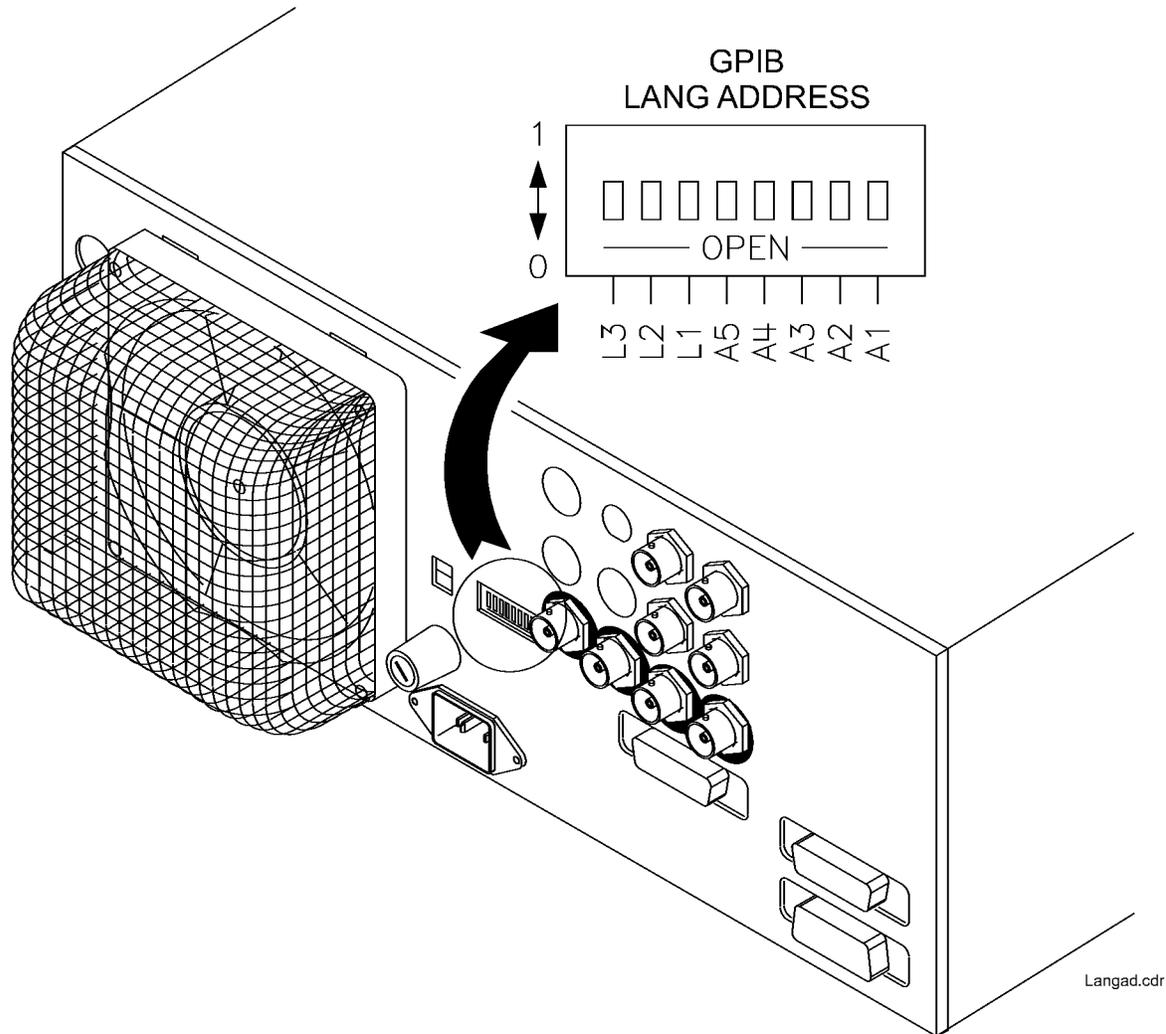

Figure 3-2. Rear Panel GPIB Switch
To set a programming language from the front panel, the instrument language on the rear panel GPIB switch (L1, L2, and L3 shown in Figure 3-2) *must* be set to 7 (all 1s).
If the swept signal generator displays **Rear panel GPIB language must be 7 (111) in order to change current language (=XXX)**, the address on the rear panel GPIB switch (Figure 3-2) is set to something other than 7 (all 1s).
If your swept signal generator does not have a front panel, set the rear panel GPIB switch (Figure 3-2) for the language you want. (See Table 3-2 for language addresses.)
To set a GPIB address from the front panel, the instrument address on the rear panel GPIB switch (Figure 3-2) *must* be set to 31 (all 1s).
If the swept signal generator displays **Rear panel GPIB address** *must* be 31 (11111) in order to change current address (=XX), the address on the rear panel GPIB switch (Figure 3-2) is set to something other than 31 (all 1s).
To disable the address softkeys, set the instrument address on the rear panel GPIB switch (Figure 3-2) to any address *other than* 31 (all 1s).
If your swept signal generator does not have a front panel, set the address on the rear panel GPIB switch (Figure 3-2) to the address you want (factory default is 19).